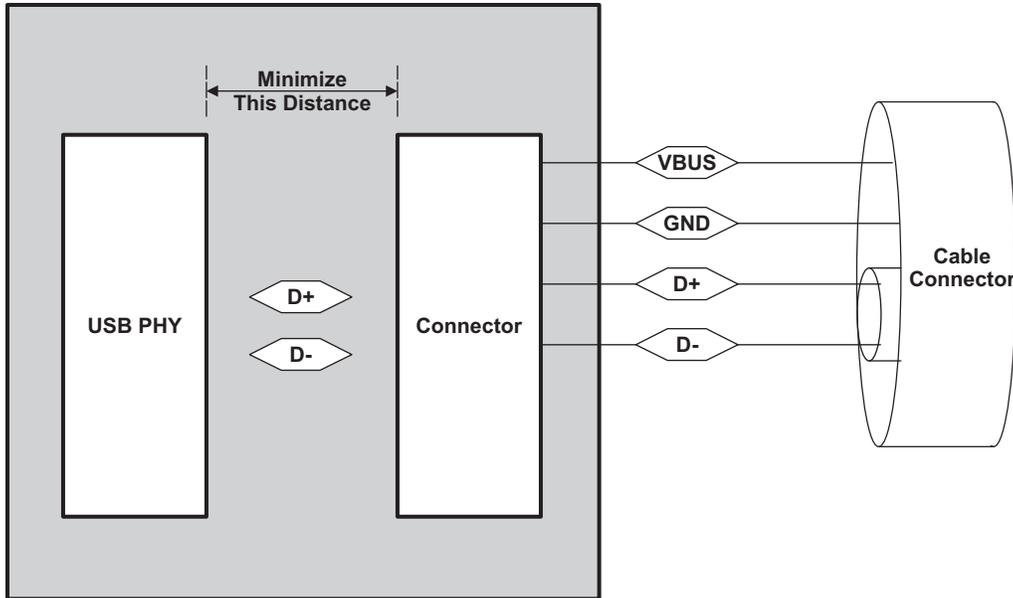

图 8-35. USB PHY Connector and Cable Connector
- DP/DM traces should always be matched lengths and must be no more than 4 inches in length; otherwise, the eye opening may be degraded (see 图 8-35).